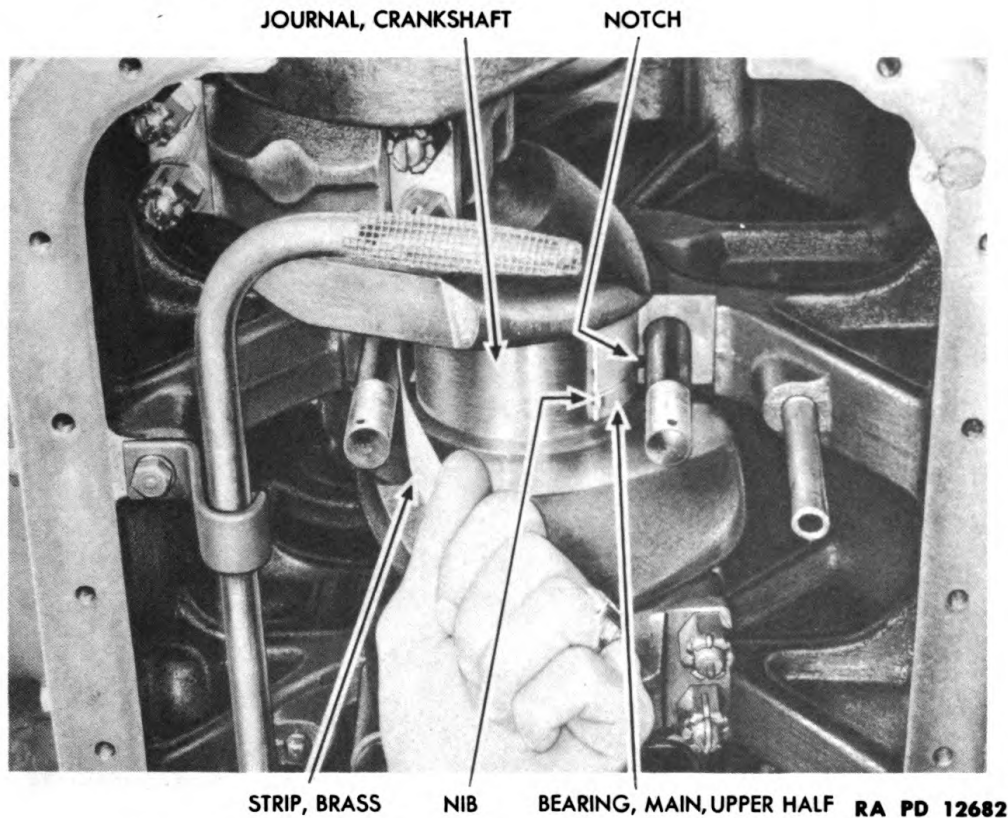

Figure 118—Removal of Upper Half of Main Bearing
(4) REMOVE UPPER HALF OF MAIN BEARING (fig. 118).
(1) **INSTALL UPPER HALF OF MAIN BEARING** (fig. 118). Push bearing around crankshaft, so that nib on one end of bearing engages with notch in crankcase.